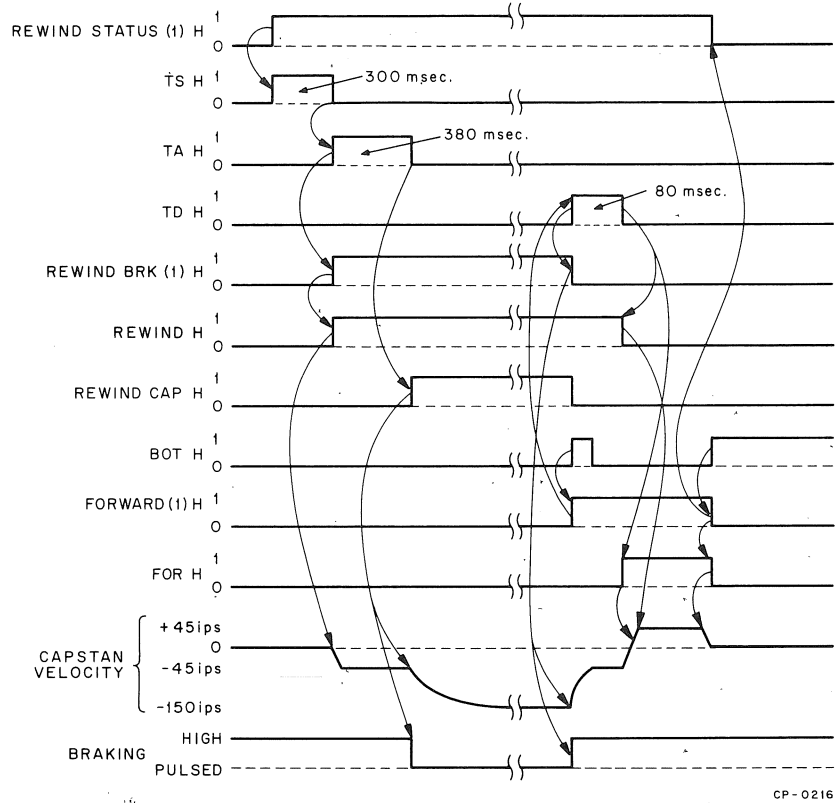

Figure 4-6 Rewind Sequence Timing
4.1.3.5 Rewind Control – Due to the limited rate at which the reels can be accelerated and decelerated, a special sequence of control signals must be generated to perform a high-speed rewind operation. The sequence is shown in Figure 4-6.